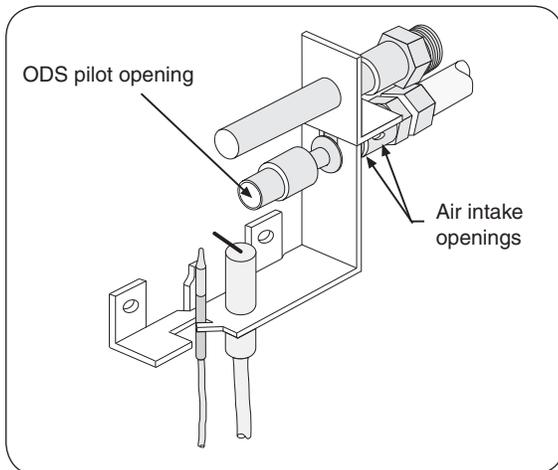

Fig. 20-1
1. Turn the vent-free gas log set to the **OFF** position and allow it to cool. Inspect the ODS pilot area (see Fig. 20-1) for any visual contamination or debris (usually lint, hair, spider webs, or small insects). Lightly brush off all external surfaces while vacuuming loosened debris from the ODS pilot opening. **Be careful not to brush any foreign material into the ODS pilot opening.**